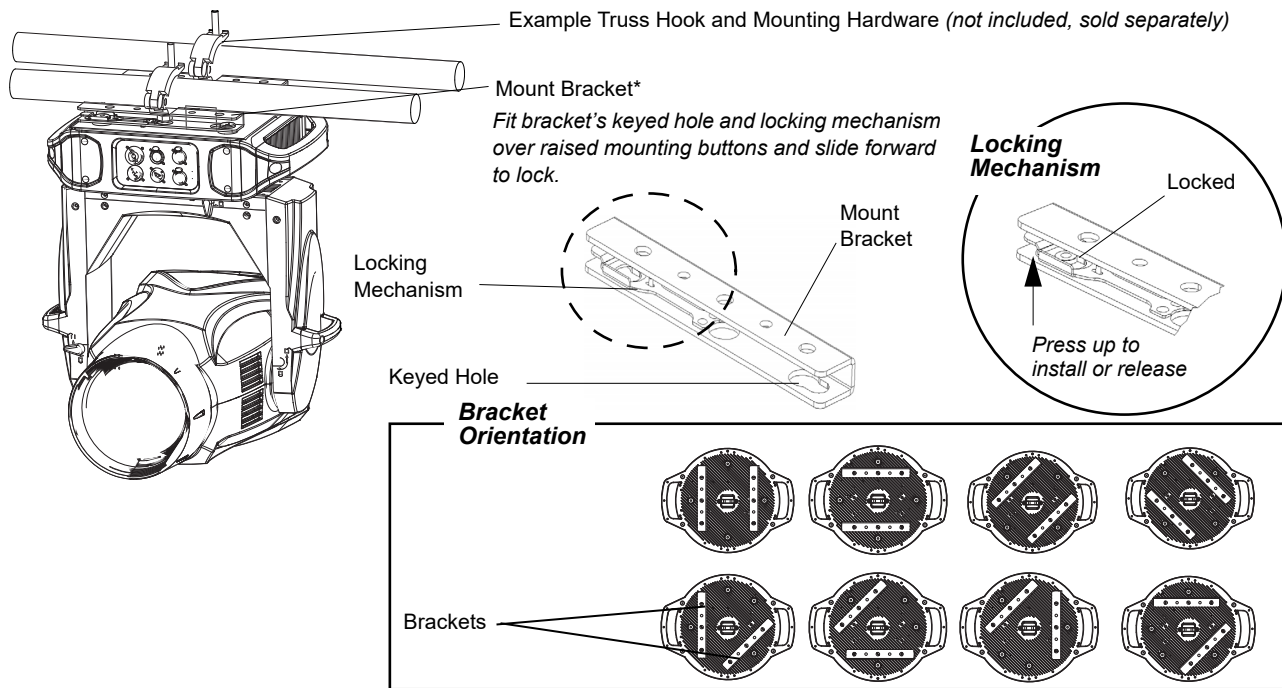

Figure 4: Installing Brackets on Luminaire Enclosure
- Step 2. Determine required configuration of bracket installation. Brackets may be installed in many different orientations as shown in **Figure 4**.